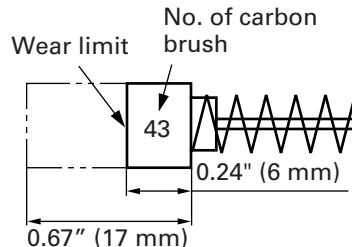

Fig. 24
### 4. Inspecting the carbon brushes (Fig. 24)
**NOTE:** Use metabo HPT carbon brush No. 43 indicated in Fig. 24.